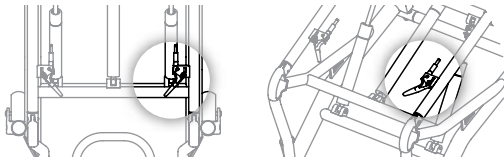

Figure 17.16
- 3 Release the lever at the desired positions. See Figure 17.16 for location of the backrest recline adjustment lever.
The Elevation with Real-Time Recline Adjustment has a unique backrest design that allows dynamic adjustment. The backrest can be adjusted to suit the occupant's position by simply activating the adjustment lever located at the front of the wheelchair, below the seat (see Figure 17.16). Activation of the adjustment lever will allow for movement of the backrest forward or back.